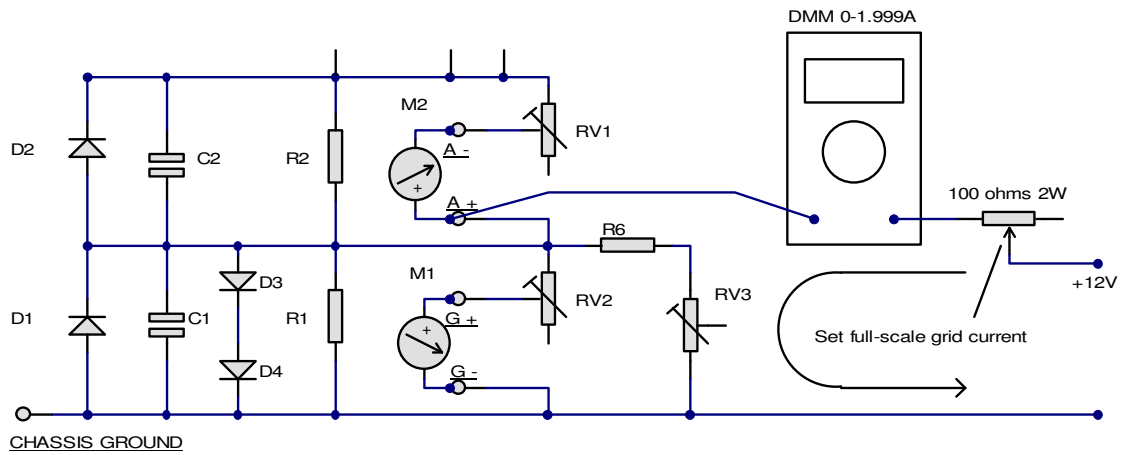

Figure 11: Calibration setup for grid current meter. Alternatively you can use a variable voltage/current power supply.
2. Connect a 100 Ω 2W variable resistor to an external +12V DC supply, and in series with this connect an accurate current meter to the A+ terminal (see Figure 11, next page). This will allow you to pass a known current through the grid meter shunt R1. Alternatively you can use a variable voltage/current power supply.
2. Connect an accurate voltmeter between the C and E terminals of Q1, as shown in Figure 11.
1. Reconnect the temporary grid current setup as shown in Figure 11. Set RV3 to mid-travel.